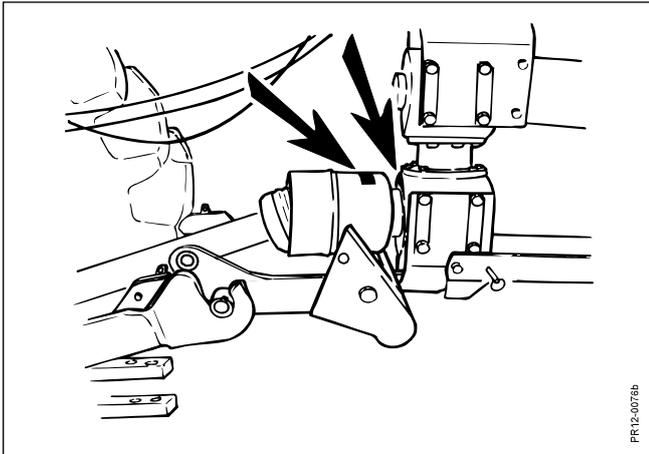

Fig. 2-12
**Fig. 2-12** The machine is marked so that the actual gearing is shown clearly on the front part of the swivel gearbox and the protection guard at the PIC shaft (see the decal on the machine on page 13, pos. 12). If, for some reason, this decal is missing the gearing should be re-checked.